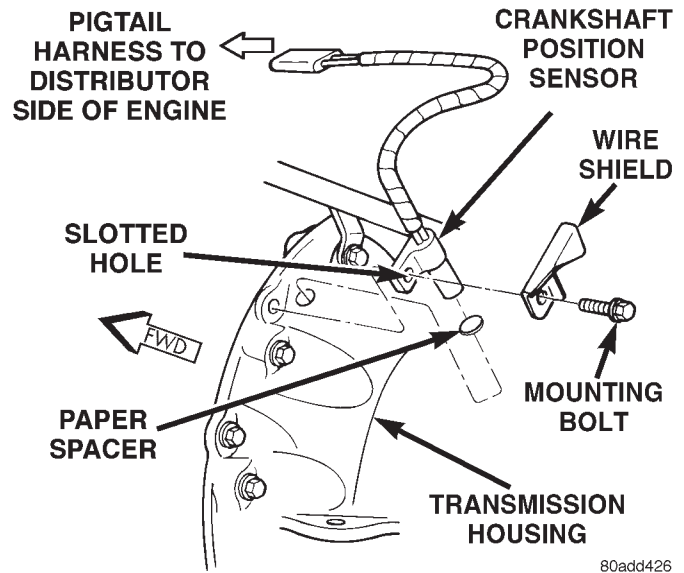

Fig. 31 Crankshaft Position Sensor—4.0L 6-Cylinder Engine
The crankshaft position sensor is mounted to the transmission bellhousing at the left/rear side of the engine block (Fig. 31). The sensor **is adjustable** and is attached with one bolt. A wire shield/router is attached to the sensor (Fig. 31).
- (1) New Sensors: Be sure paper spacer is installed to bottom of sensor. If not, obtain spacer PN05252229.
- (2) Used Sensors: Clean bottom of sensor and install spacer PN05252229.
- (3) Install sensor into transmission bellhousing hole.
- (4) Position sensor wire shield to sensor (Fig. 31).
- (5) Push sensor against flywheel/drive plate. With sensor pushed against flywheel/drive plate, tighten mounting bolt to 7 N·m (60 in. lbs.) torque.